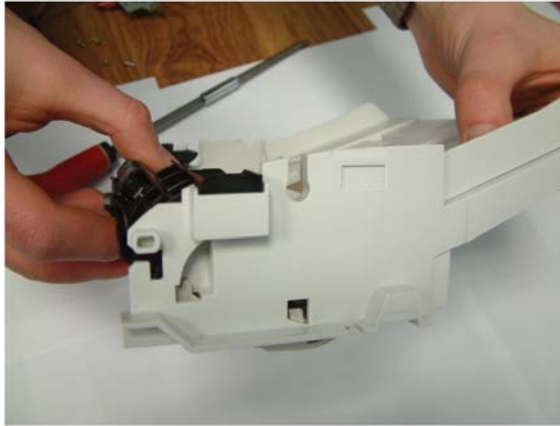

Figure 2
3. Pull out the paper guide assembly, Figure 2.